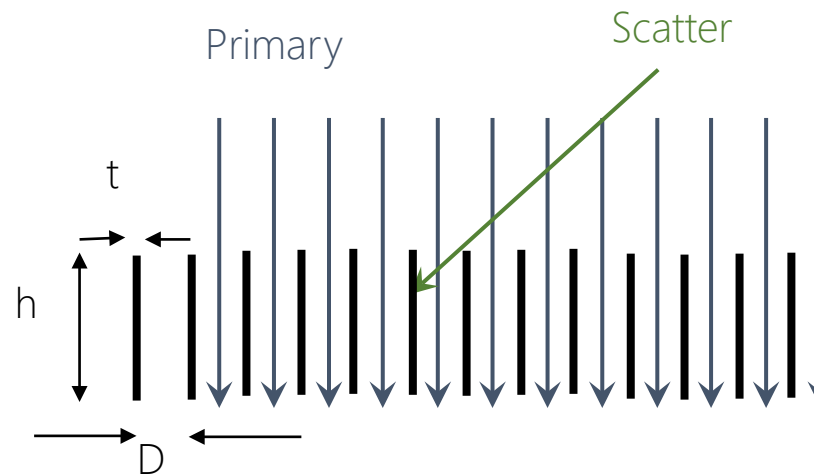

Fig. 15 – Grid characteristics
- Grids are characterized by the parameters (Fig. 15) :